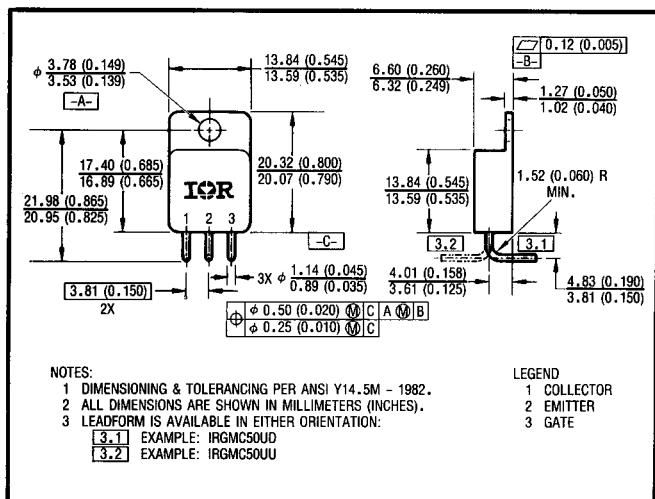

Fig. 15 — Optional Leadforms for Outline TO-254
**For leadform configuration see page G-105, fig. 15